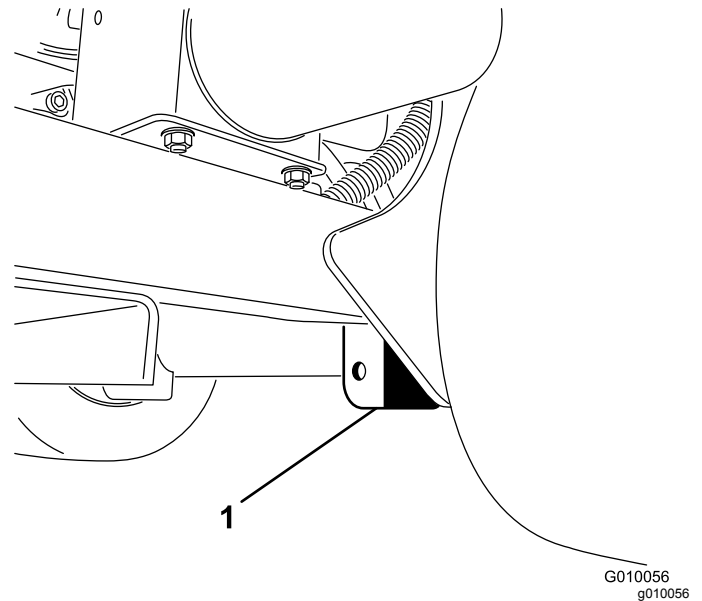

Figure 42
3. Place the jack securely under the frame plate just inside of the rear wheel (Figure 42).